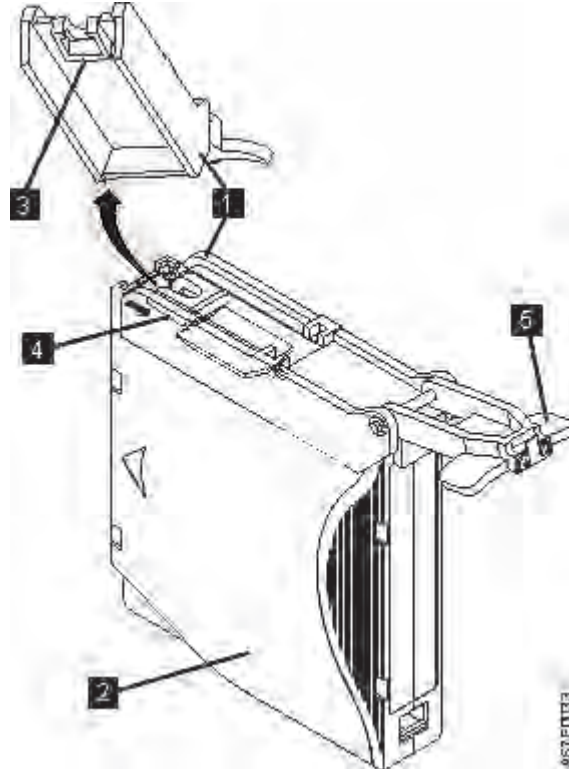

Figure 106. Attaching the leader pin attach tool to the cartridge
1. Attach the leader pin attach tool (1 in Figure 106 on page 232) to the cartridge (2) so that the tool's hook (3) latches into the cartridge's door (4). Pull the tool back to hold the door open, then slide the tool onto the cartridge. Open the tool's pivot arm (5).